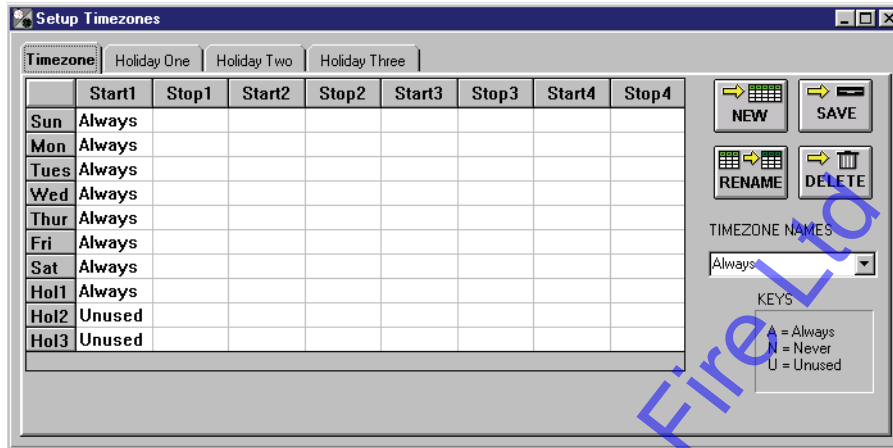
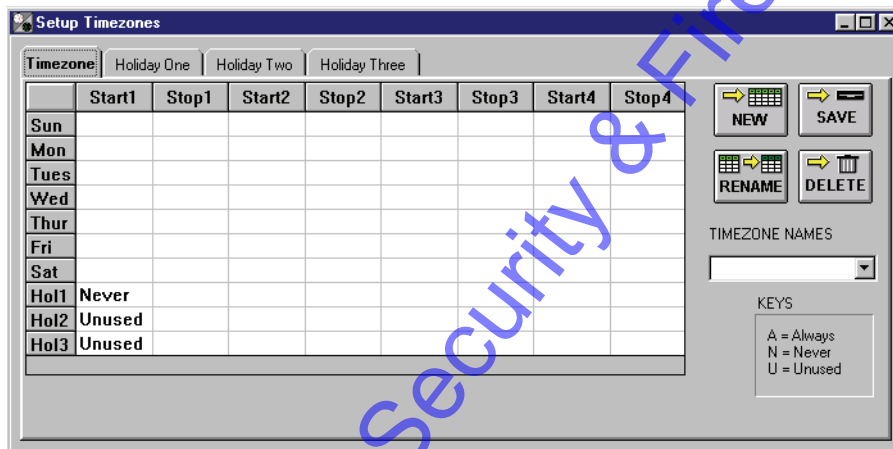

Figure 3-1: Setup Timezones Window
Figure 3-2: Cleared Setup Timezones Window
- To reach the Setup Timezones window, click on Setup ⇒ Timezones or click on the  icon on the tool bar. The Setup Timezones window appears (see Figure 3-1).
2. From the Setup Timezones window (see Figure 3-1 on page 4 of this section), click on the  button. The day-of-the-week start fields and the Timezone Names field are cleared (see Figure 3-2).
2. From the Setup Timezones window (see Figure 3-1 on page 4 of this section), click on the  button. The day-of-the-week start fields and the time zone name field are cleared (see Figure 3-2 on page 5 of this section).
1. Click on Setup ⇒ Timezones or click on the  icon on the tool bar. The Setup Timezones window appears (see Figure 3-1 on page 4 of this section).